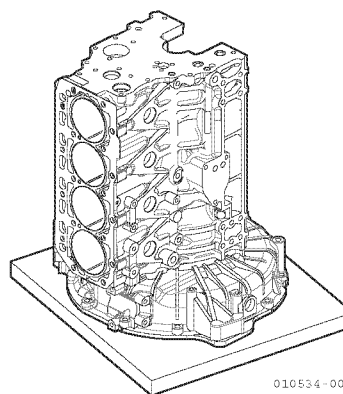

Figure 5-134
11. Stand the engine on the flywheel housing (Figure 5-134).